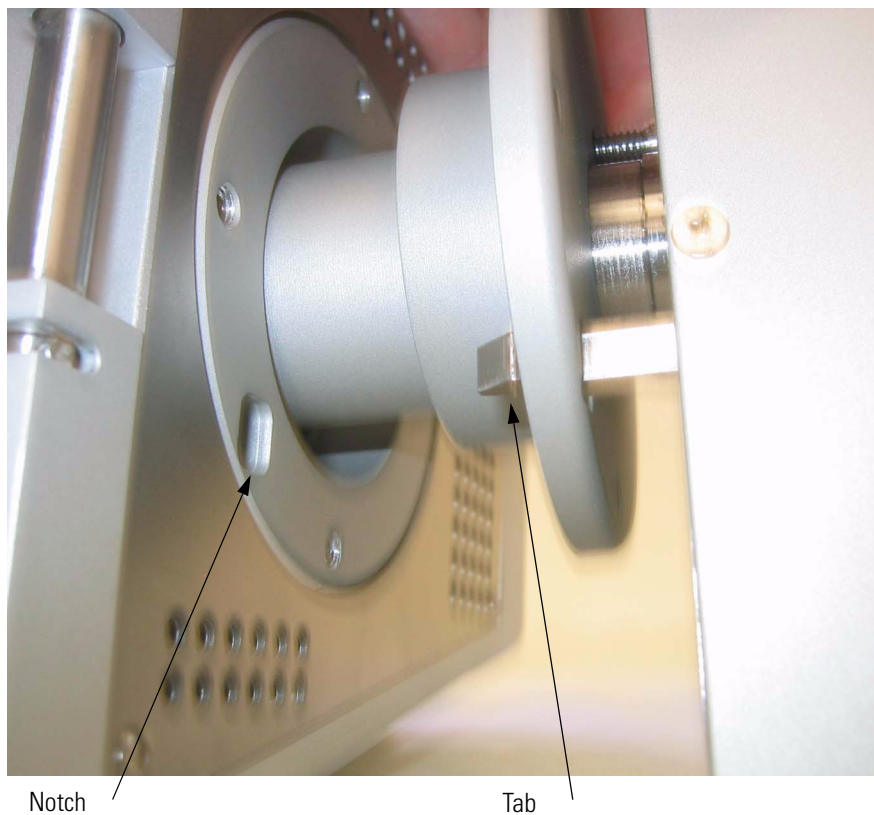

Figure 17. Aligning the tab on the PhotoMate light source with the adapter ring
4. Carefully align the PhotoMate light source so that the locking tab on the bottom of the APPI assembly aligns with the notch in the APPI adapter ring (Figure 17).